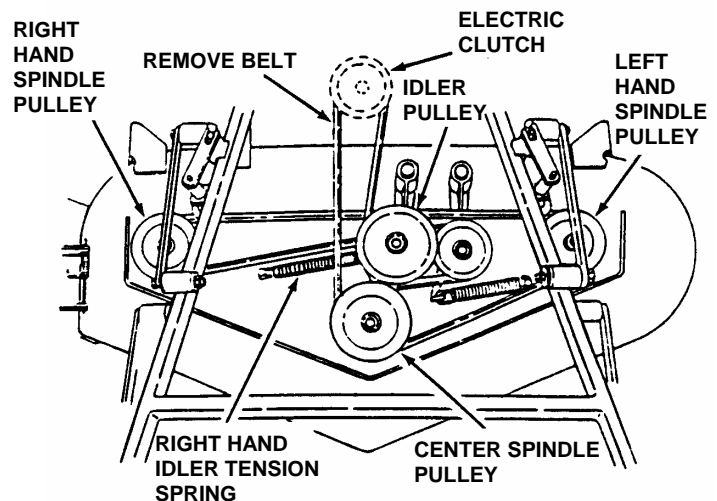

FIGURE 5.2
3. Remove right hand Idler Tension Spring and swing Idler away from belt. See Figure 5.2.
2. Route new belt around right and left hand Spindle Pulleys as shown in Figure 5.2.
4. Remove old belt from center and right hand Spindle Pulleys. See Figure 5.2.